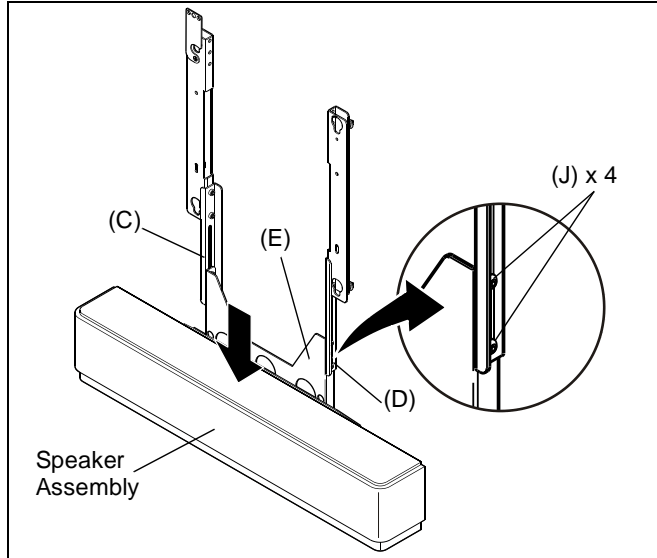

**Figure 7**
- Insert two 1/4-20 x 1/2" button head cap screws (J) into the center speaker adapter (F). (See Figure 7)
- Assemble center speaker adapter (F) to center speaker mounting bracket (E) by sliding two button head cap screws (J) through the teardrop mounting holes in center speaker mounting bracket.
- Lower adapter (F) until button head cap screws (J) are seated in lower area of teardrop mounting holes. (See Figure 7)
mounting holes in center speaker adapter (F). (See Figure 7)